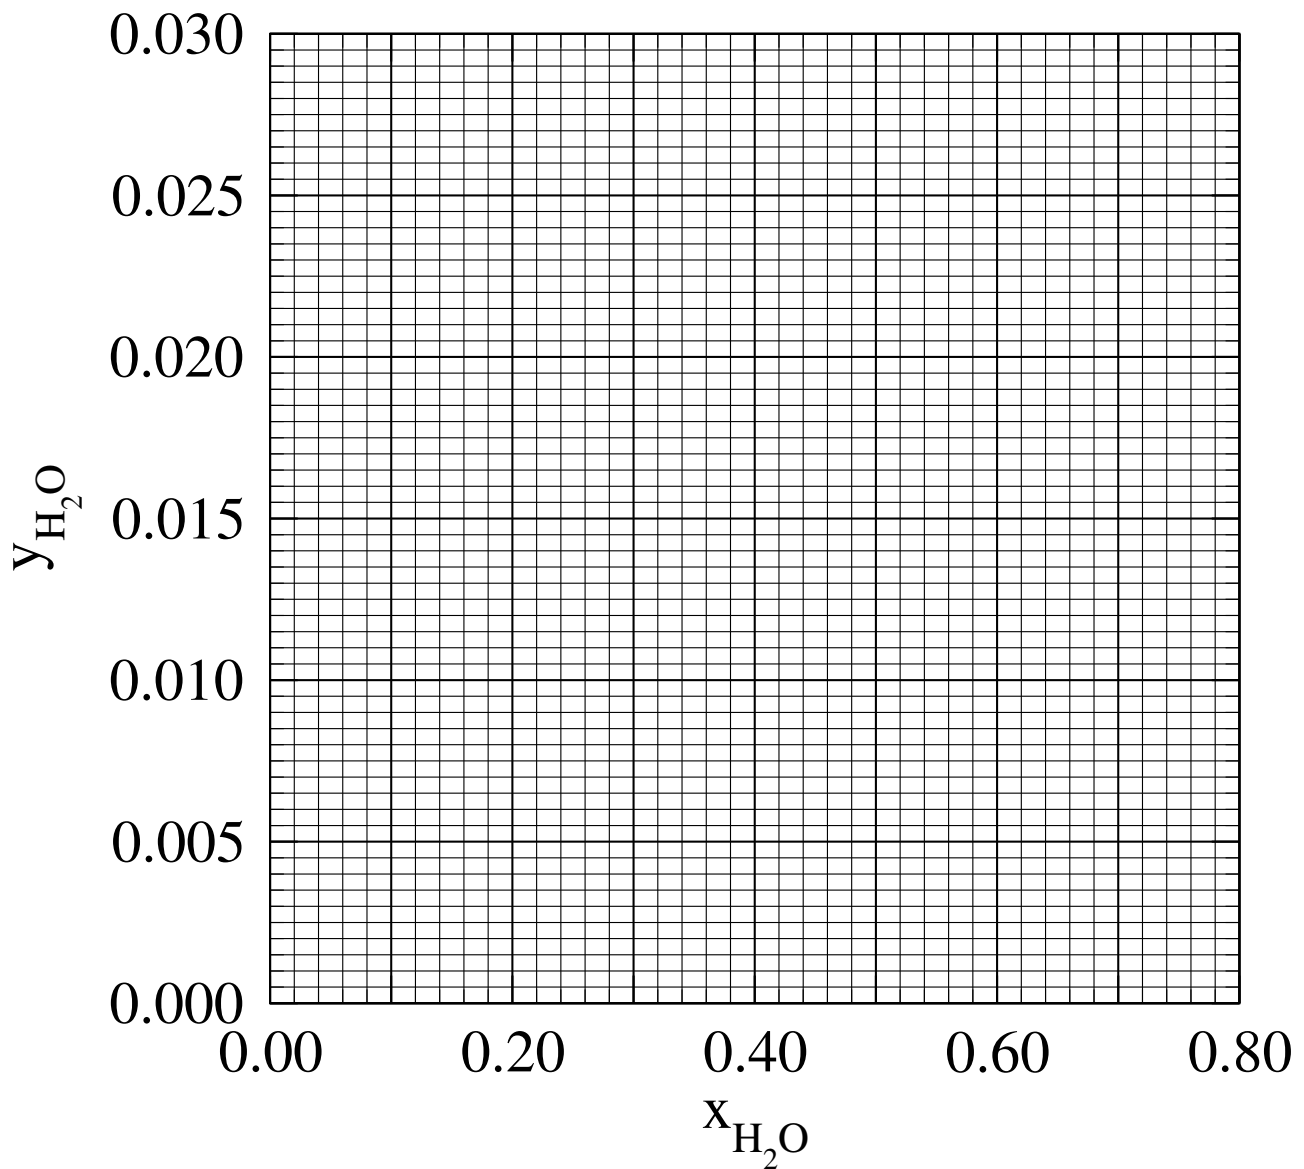

Figure 11: Blank graph for the air dryer in Q. 4.12.
- Using the equilibrium data provided in Table 1, determine the number of equilibrium stages required to perform the absorption. Plot your graph in x-y coordinates on Fig. 11 and ensure that you adequately capture the curvature of the operating line (or use X-Y coordinates). **[12 marks]**